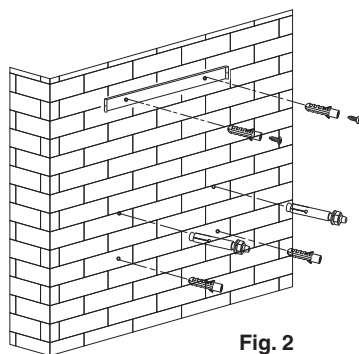

Fig. 2
- 3a. For Masonry walls, install appropriate plugs into the 2 bracket holes and 2 safety holes (top and bottom) and appropriate masonry anchors into the 2 key holes (middle holes). Fix the flue cover bracket onto the wall with 2 screws. See figure 2.
- 3b. For Timber walls, install appropriate screws into the 2 key holes (middle holes). Fix the flue cover bracket onto the wall with 2 screws. See figure 2.